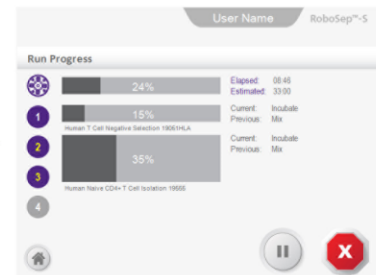

Figure 22. Loading the Carousel and Running a Protocol
Note: The Carousel Loading screen will indicate the reagent volumes required for the separation based on the sample volume assigned (Figure 22).
Note: Ensure the resource is loaded in the correct quadrant. The quadrant number is displayed both in the bottom left corner (highlighted in dark purple) and in the carousel schematic on the Carousel Loading screen (Figure 22). Some RoboSep™-S protocols may require reagent resources to be placed in positions with conflicting symbols (e.g. Magnetic Particles [triangle] assigned to the circle position); these exceptions are noted in the list of reagent resources provided on the display screen, and are correct.
5. Optional: Scan barcodes to record reagent-specific information such as catalog numbers and lot numbers (section 4.3.4). Select  [Barcode scanner] on the Carousel Loading screen (Figure 22) to scan desired barcodes for resources loaded in each quadrant. Once all scanning is finished, select  [Save] to save the information. Resource-specific information will be recorded in the End-of Run Reports for each protocol (section 5.1).
6. Select  [Run] on the Carousel Loading screen to start the protocol. A Run Progress screen will appear after approximately one minute (Figure 22).
By default, all barcodes will be scanned. If you do not want to scan all barcodes at once during each run, edit the user profile preferences and deselect the “Enable autoscanning of barcodes” option (section 4.1.3). Then select  [Barcode scanner] on the Carousel Loading screen (Figure 22) to scan desired barcodes for resources loaded in each quadrant. Once all scanning is finished, select  [Save] to save the information. Refer to Table 3 for the various messages that may appear on the screen after barcode scanning.